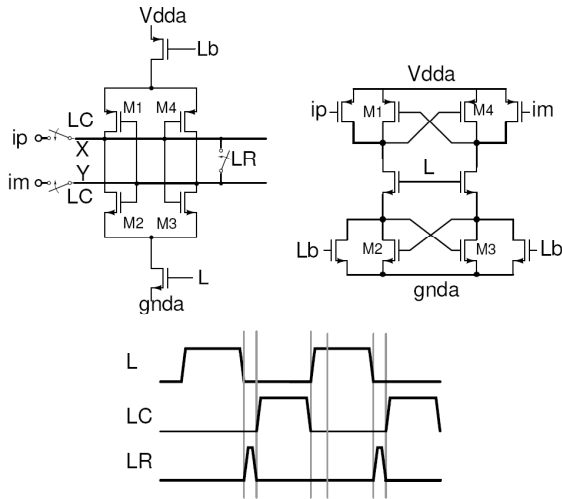

Figure 3: Latches for dynamic offset simulations
4. In this problem, we attempt to understand the issue of dynamic offset. Consider the two latch circuits in Fig. 3. The first latch was discussed in class. Another candidate latch (with the advantage of greatly simplified clocking) is shown towards the right of the figure. In both latches,  $L$  is the latch signal, while  $Lb$  is its complement. For simplicity, use an ideal clock generator.  $V_{dd} = 1.8$  V. The input is fully differential, with a common-mode voltage of 0.9 V. The clock frequency is 10 MHz.